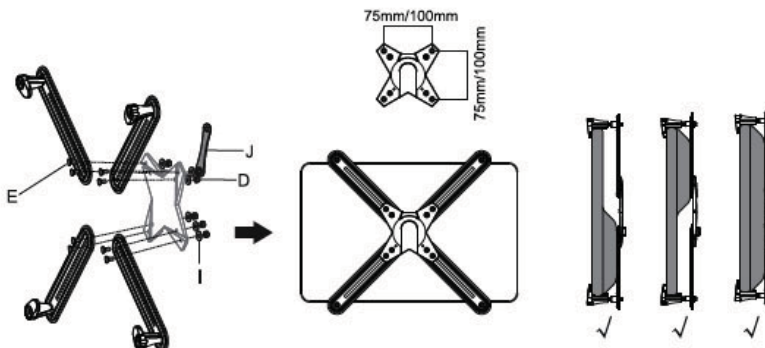

Figure 2
1. Use Bolt (E), Washer (I) with Nut (D) and tighten using Wrench (J), see Figure 2. **Note:** Do not fully tighten until instructed to do so in Step 3.
1. Adjust the position of the Support Arms to match your monitor, then fully tighten Nut (D) using Wrench (J) to secure them to the VESA plate, see Figure 2, 3, 4 or 5.